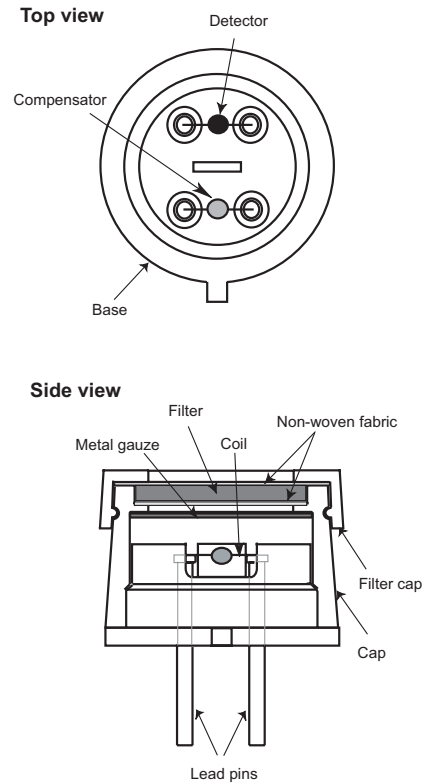

Fig. 1 - Sensor structure
Figure 1 shows the structure of TGS6812. The sensor is comprised of two elements: element (D) which is sensitive to combustible gases, and a reference element (C) which does not have sensitivity to combustible gases. The sensing element (D) is made of alumina doped with catalysts, while the reference element (C) is made of alumina. Both coils are made of Pt wire, and the wires of both elements (D) and (C) are connected to nickel pins No. 2 & 3 and No. 1 & 4 respectively. The sensor base and cap are made of reinforced Polybutylene Terephthalate (PBT). The upper opening in the cap is covered with a double layer of 100 mesh stainless steel gauze (SUS316). The TGS6812 utilizes a zeolite filter inside the cap for reducing the influence of interference gases.